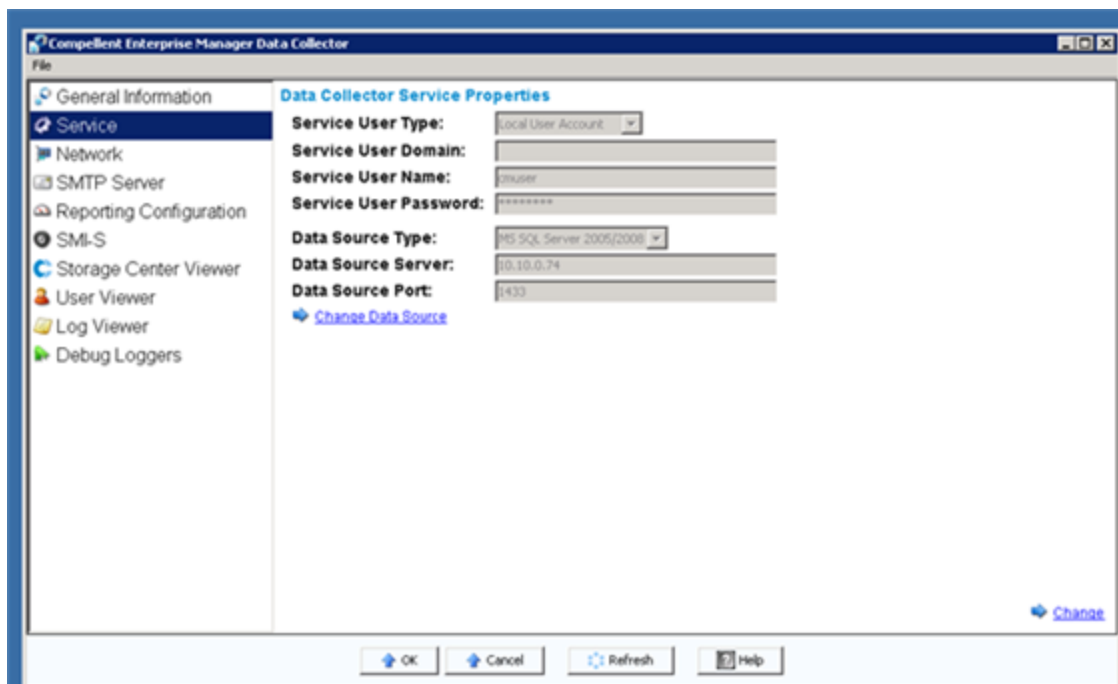

Figure 2.7: Specifying the Data Collector Service Properties
11. Once you have created the Compellent Enterprise Manager User, you will be required to provide the necessary **Data Collector Service Properties** by following the menu sequence: Start -> All Programs -> Compellent Technologies -> Compellent Enterprise Manager -> Compellent Enterprise Data Collection Manager -> Service. Figure 2.7 will then appear.
12. Clicking the **Change** link in Figure 2.7 will enable you to edit the properties of the **Data Collector Service**. Now, choose **Local User Account** from the **Service User Type** drop down list.
1. Clicking the **Change** link in Figure 2.7 will enable you to edit the properties of the **Data Collector Service**. Now, set the **Service User Type** to **Local Service Account**.